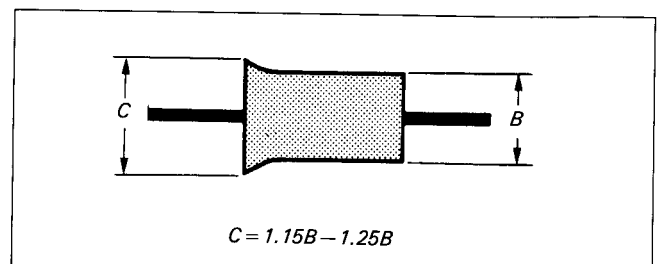

Fig. 7-71.
- 5) Turn No.2 guide so that the entrance side waveform flattens slightly. (See Fig. 7-71.)